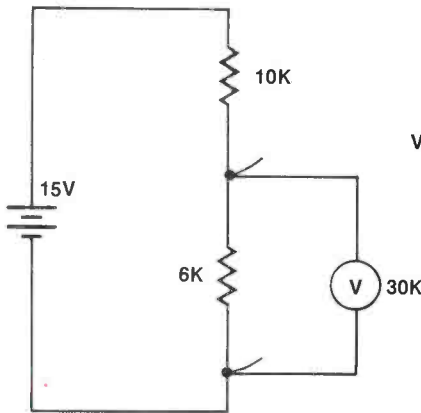

Figure 1
- The voltmeter in Figure 1 has a resistance of 30K. Assuming there are no errors in the values shown, the voltmeter reading should be